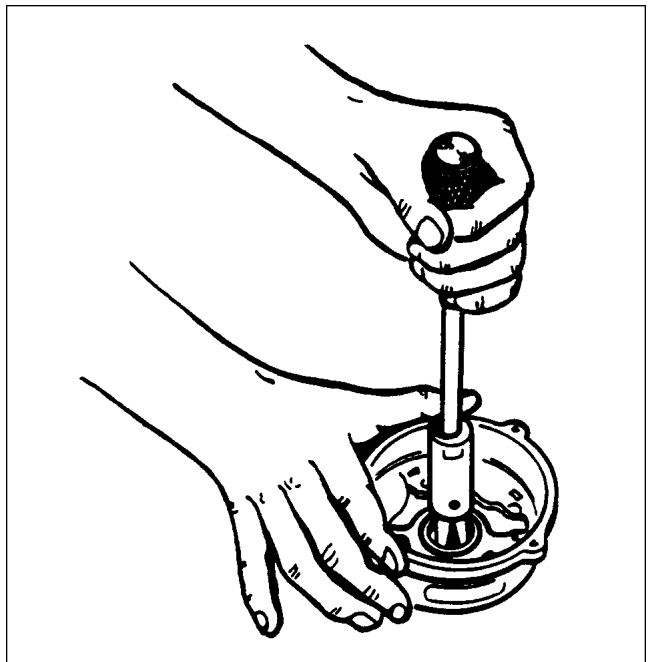

Figure 11-4. Removal of Slip Ring End Bearing
e. To remove slip ring end bearing and grease seal, have a hook type or impact type bearing puller as shown in Figure 11-4. (Do not remove bearing unless replacement is necessary.)